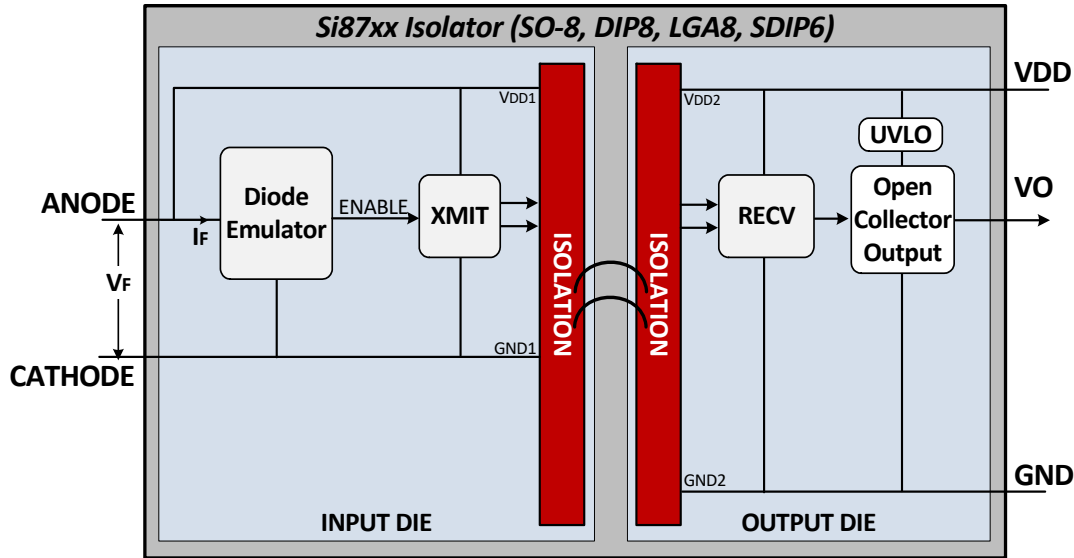

Figure 2. Si87xx Isolator Block Diagram
As shown in Figure 2, anode-cathode voltage V_F provides Si87xx input-side bias voltage. The diode emulator circuit provides two functions: First, it mimics the input behavior of an optocoupler LED to ensure compatibility with external drive circuits, and, second, it enables the transmitter when forward diode current (I_F) is at or above its threshold level. When enabled, the transmitter sends a continuous carrier to the receiver, which forces the output (V_O) low when sufficient in-band receiver carrier energy is detected. Conversely, the receiver drives V_O high when I_F is below its minimum threshold level.
- Updated Figure 2 on page 2.